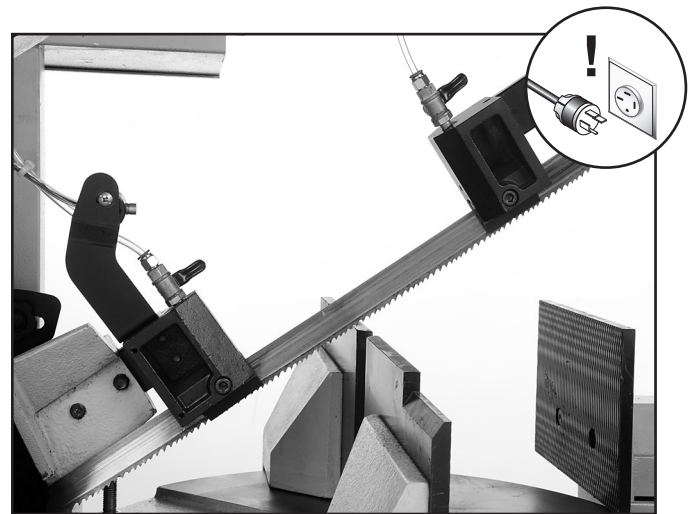

Figure 51. Guards and wire brush wheel removed.
5. Remove both of the blade guide guards and the wheel brush from the bandsaw (**Figure 51**).